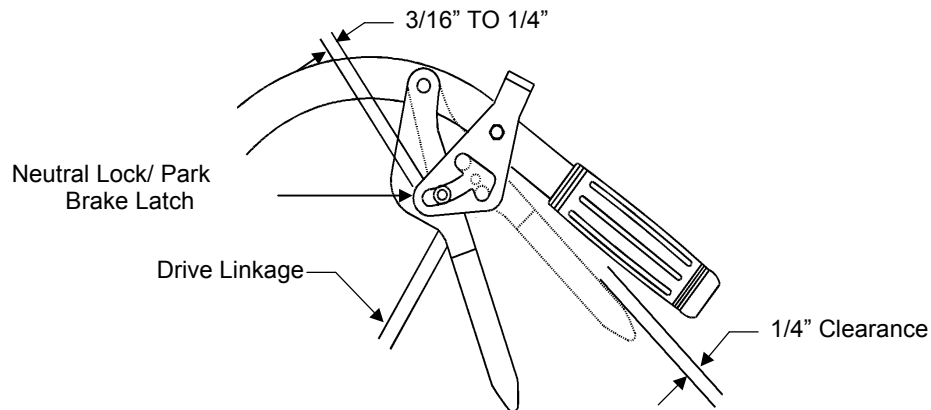

FIG. 10
- c) Adjust drive linkage length by threading into or out of the swivel until there is a 3/16" to 1/4" clearance between the linkage assembly and the bottom of the slot in the neutral lock/park brake latch. (See Figure 10)
- d) Adjust brakes by adjusting wingnut on upper end of each brake rod so that when brakes are engaged there is approximately 1/4" of clearance between ends of drive levers and handle grips (See Figure 10)